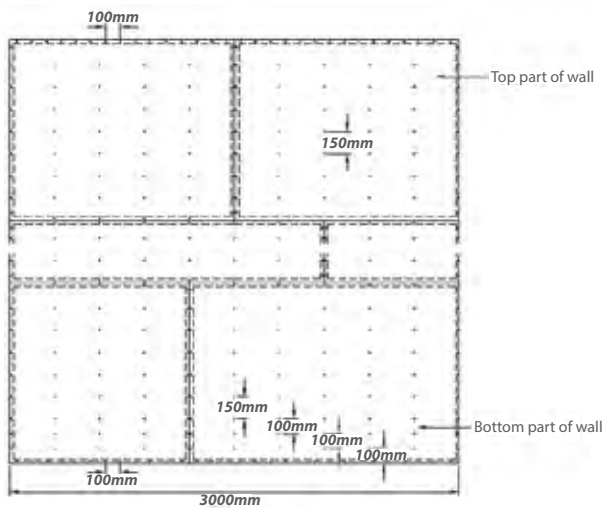

Figure 6: Board's Pattern Orientation and Fasteners Distances.
- Refer to Figure 6 for board's pattern orientation and fasteners distances installation.